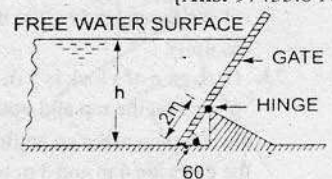

Fig. 3.56
16. A gate supporting water is shown in Fig. 3.56. Find the height 'h' of the water so that the gate begins to tip about the hinge. Take the width of the gate as unity. (Delhi University, 1986)